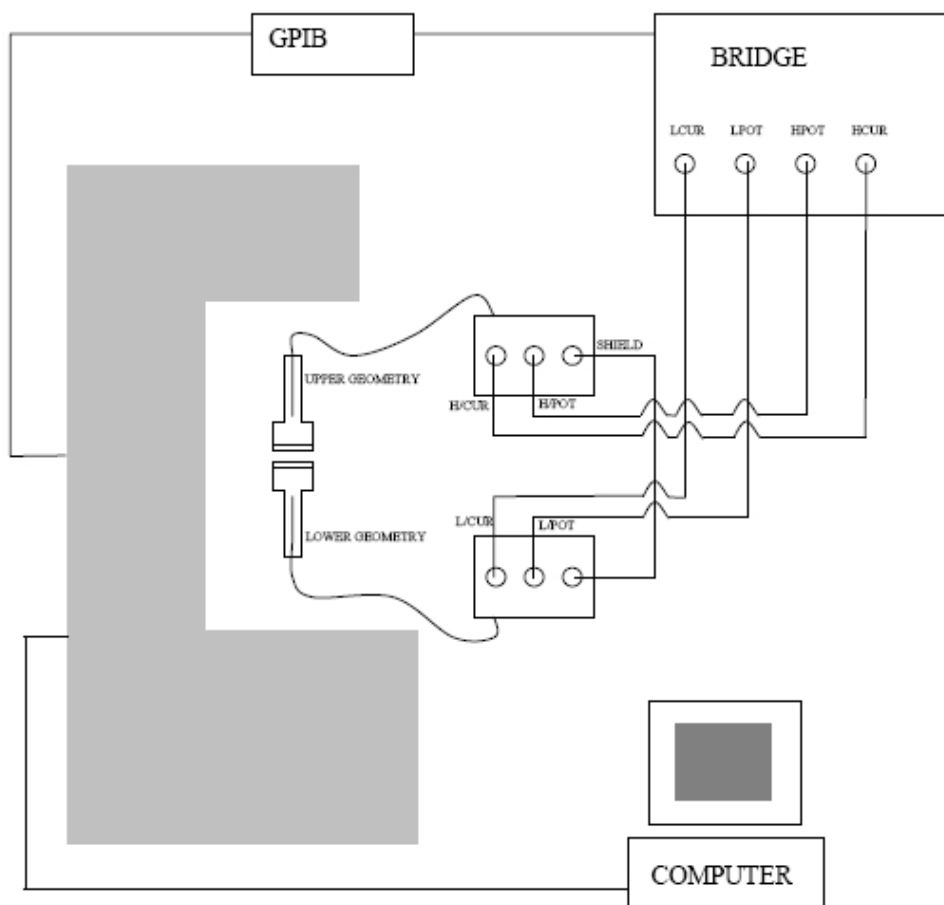

Figure 10 Main BNC wire harness connection block diagram.
- 4 Connect the main BNC wire harness from the upper BNC junction box to the LCR Meter front panel. Refer to Figure 10 for reference.
- 5 Connect the main BNC wire harness from the lower BNC junction box to the LCR Meter front panel. Refer to Figure 10 for reference.